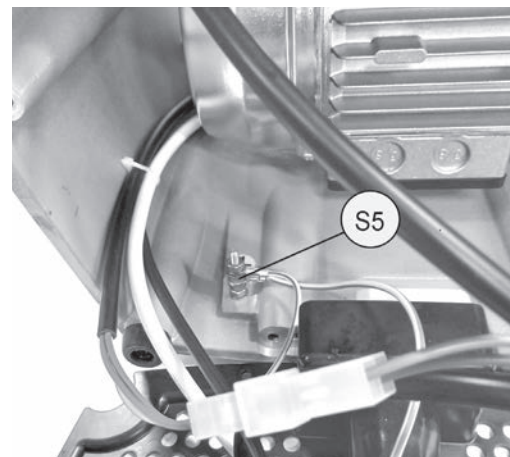

Fig. 60
- 14) Connect the connectors (S2) (Fig. 47) to the motor on switch and fit the earth wire to its screw with the nut (S5) (Fig. 60).